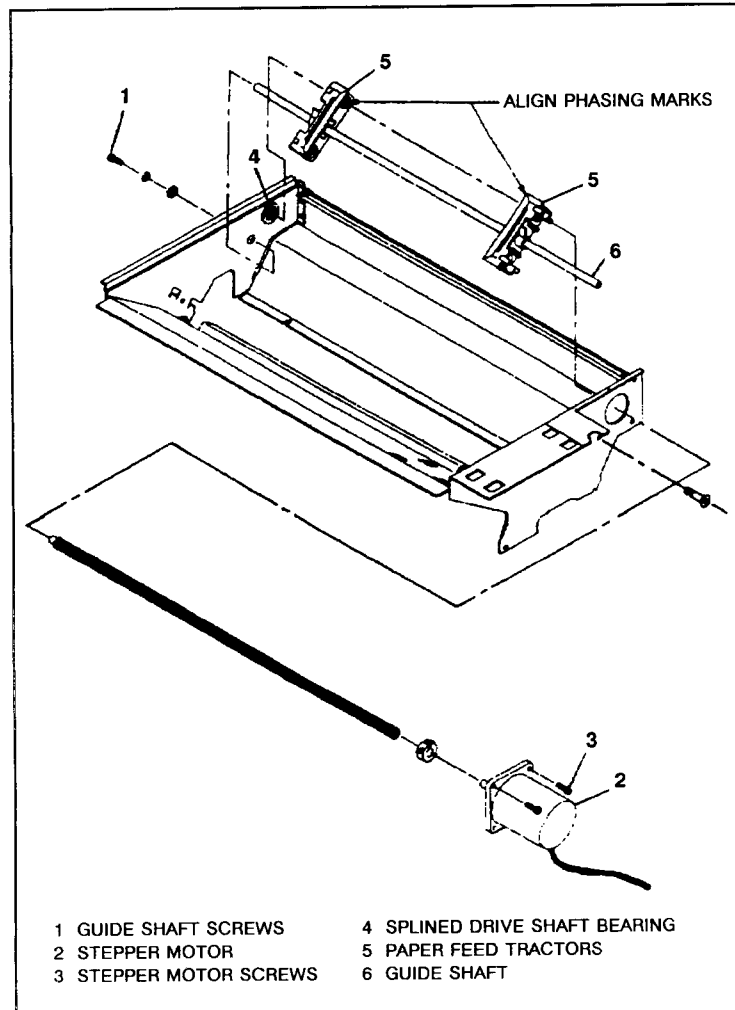

Figure 6-11. Paper Feed Tractors
- b. Remove the three 3 mm hex head screws securing the stepper motor to the printer weldment (see Figure 6-11, item 3).
- e. From the left of the printer, remove the one 3 mm hex head (or pozidrive) screw securing the tractor guide shaft to the side of the weldment (see Figure 6-11, item 1).